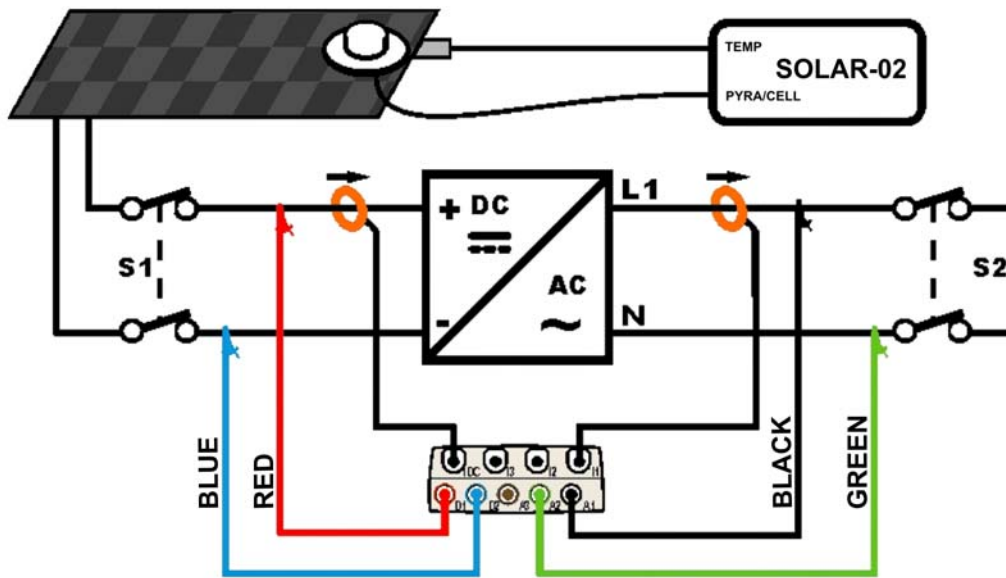

Fig. 160: Connecting the instrument in a PV-1 system with SOLAR-02
3. Connect inputs **D1** and **D2** to the positive and negative string output pole respectively. Connect inputs **A1** and **A2** to the phase and neutral conductors, respecting the colors as shown in Fig. 160
4. Connect the DC current clamp to the positive string output conductor **by respecting the direction of the arrow** on the clamp itself as indicated in Fig. 160. **Check the status of internal batteries of the DC clamp after the connection to the installation**
5. Connect the AC current clamp to the Phase L1 conductor **by respecting the direction of the arrow** on the clamp itself as indicated in Fig. 160. Connect the output of the clamp to the **I1** input of the instrument.